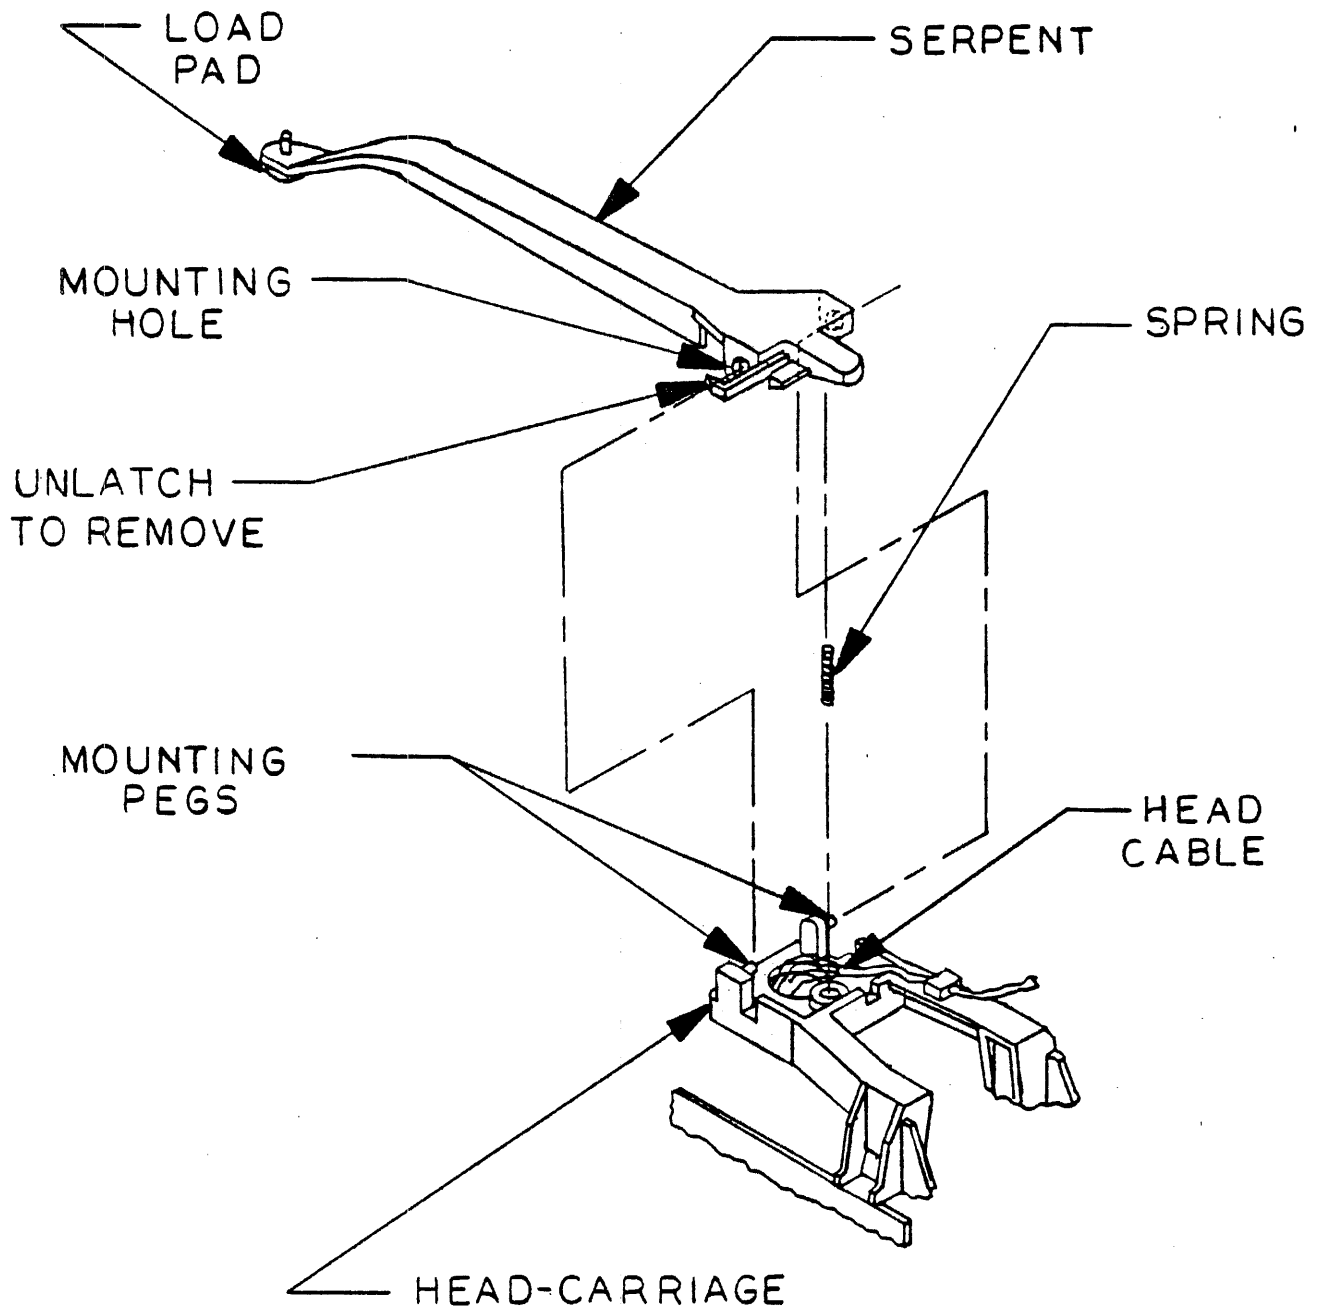

FIGURE 1. THE REMOVAL OF THE SERPENT FROM THE HEAD CARRIAGE.
- 7.3.3 Being careful not to excessively bend the spring, move the serpent's mounting holes onto the mounting pegs on the carriage until the serpent's latch locks onto the mount. (See Fig. 1.)